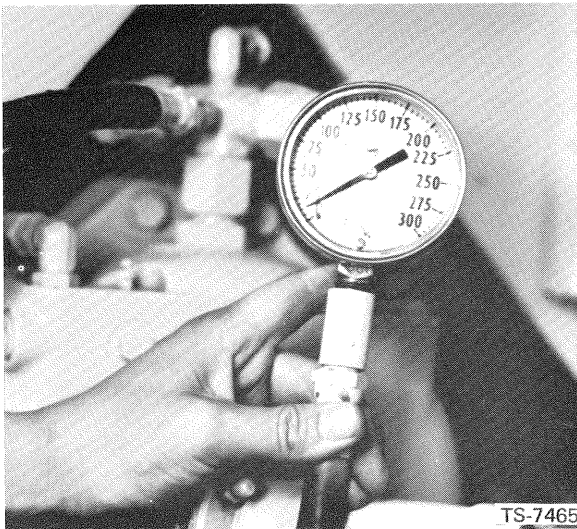

Fig. 10-5 Oil Cooler Out Pressure Drop Check
NOTE: For checking the oil cooler IN pressure refer to the procedure for checking the converter OUT pressure, as these two pressure readings are the same. See Fig. 10-5 for the position of the check point.
1. Install a tachometer on the engine. Install gauges at the converter OUT pressure check point, (this reading is the same as the oil cooler IN pressure, see NOTE above) and at the oil cooler OUT pressure check point located at the rear of the transmission on top of the brake housing. Fig. 10-5